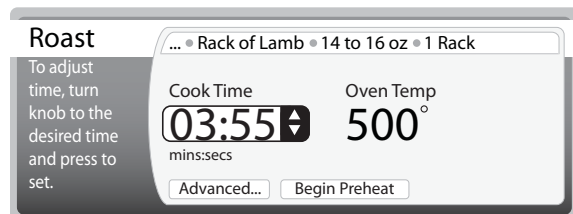

Figure 2.5: Adjusting Cook Time
3. Turn the inner CookWheel knob to adjust the cook time in 5-second increments. The original cook time cannot be altered more than 25% in either direction (Figure 2.5).